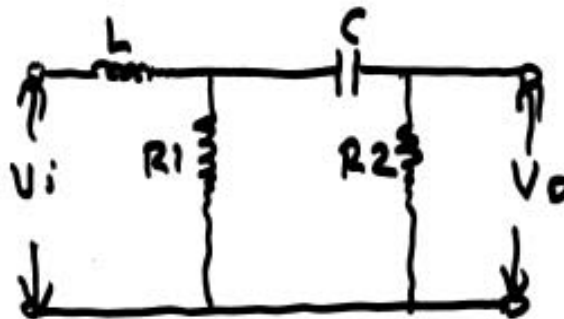

Fig. 1
- b) For the network shown in Figure 1, obtain $\frac{V_o(s)}{V_i(s)}$ using Block Diagram Reduction Technique. 8